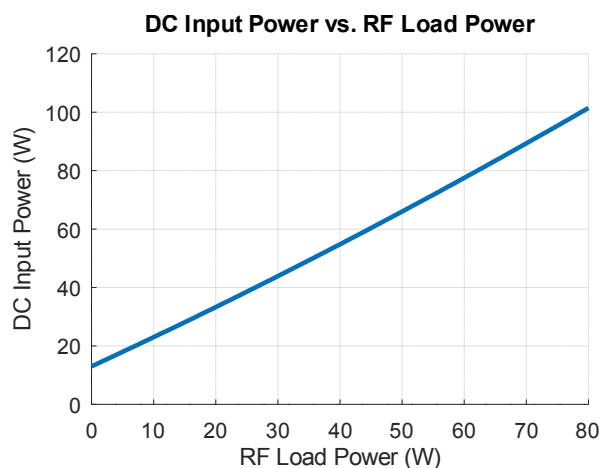
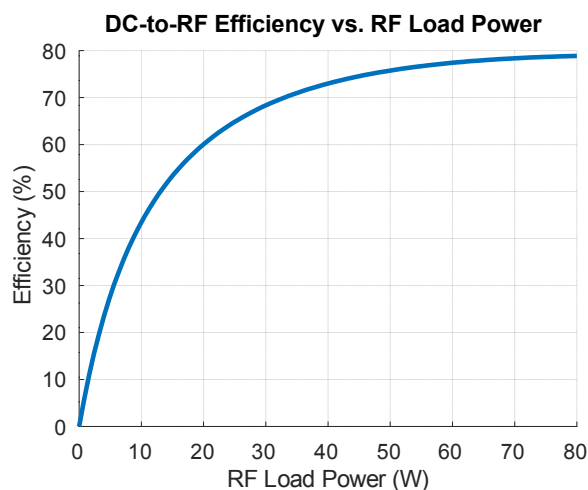
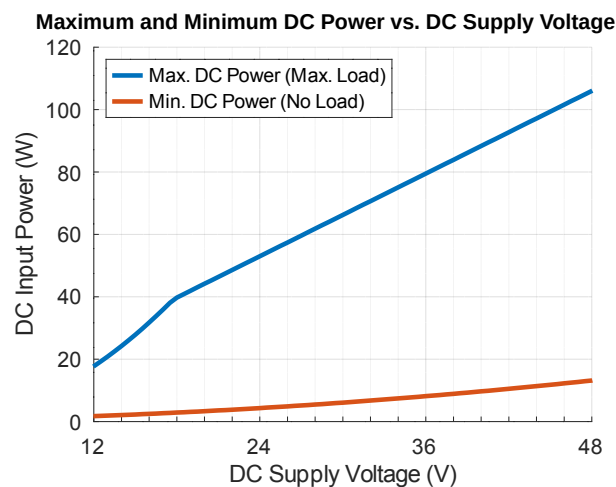

Figure 7: Test conditions: 48V, standard loop.
Figure 9: Test conditions: 48V, standard loop.
Figure 12: Test conditions: standard loop.
- 2 The maximum and minimum DC current and power are defined at 48V DC input. See Figure 12 for upper and lower DC power limits at other supply voltages. The input power and current will vary depending on the loading condition. (See Fig. 7.) The RF Generator draws the minimum power when unloaded.
RF power is generated by a Class-E amplifier, consisting of the Gate Driver, Q_1 , C_1 , and RF Choke. The input to the Class-E amplifier is a 6.78MHz square wave which drives the MOSFET Q_1 in switching mode. As a switching amplifier, the Class-E is very efficient at converting DC power to RF power. (See Fig. 9.) The input DC power draw is not constant, but varies depending on the load power. (See Fig. 7.) The DC power draw has a minimum of about 13.2W when the transmitter is unloaded. This minimum power is required for powering the control electronics and maintaining the magnetic field in the power zone. The minimum power draw may be larger if magnetic or conductive materials are placed within the power zone.